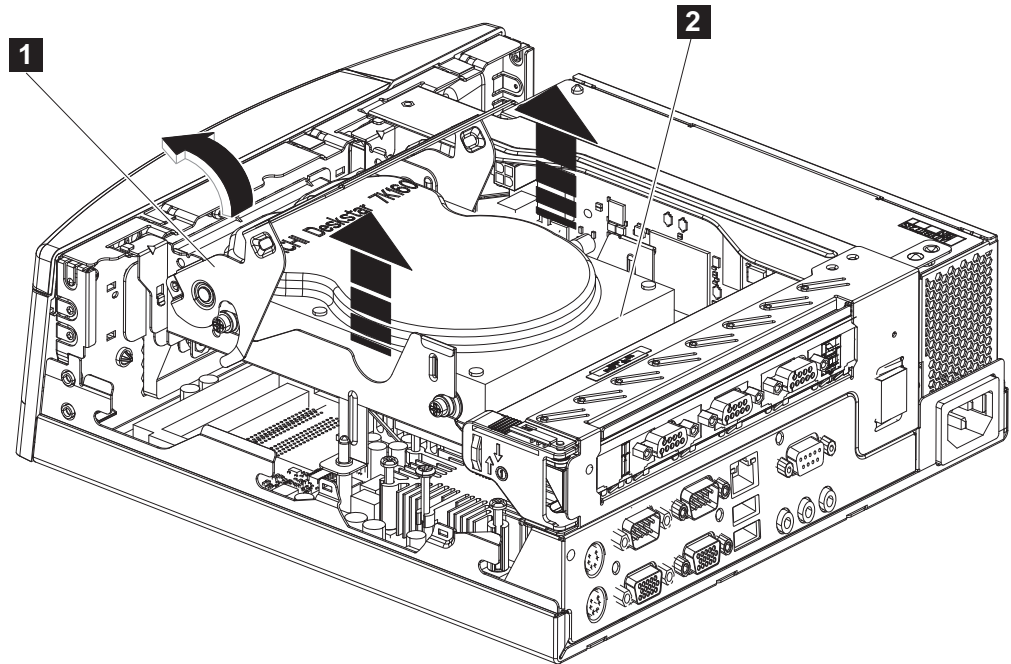

Figure 10. Removing the hard disk drive from a Model x5x
Figure 10 is a diagram of the hard disk drive for a Model x5x unit.
2. Rotate the hard drive retainer **1** to the fully open position, as shown by the arrow in Figure 10.